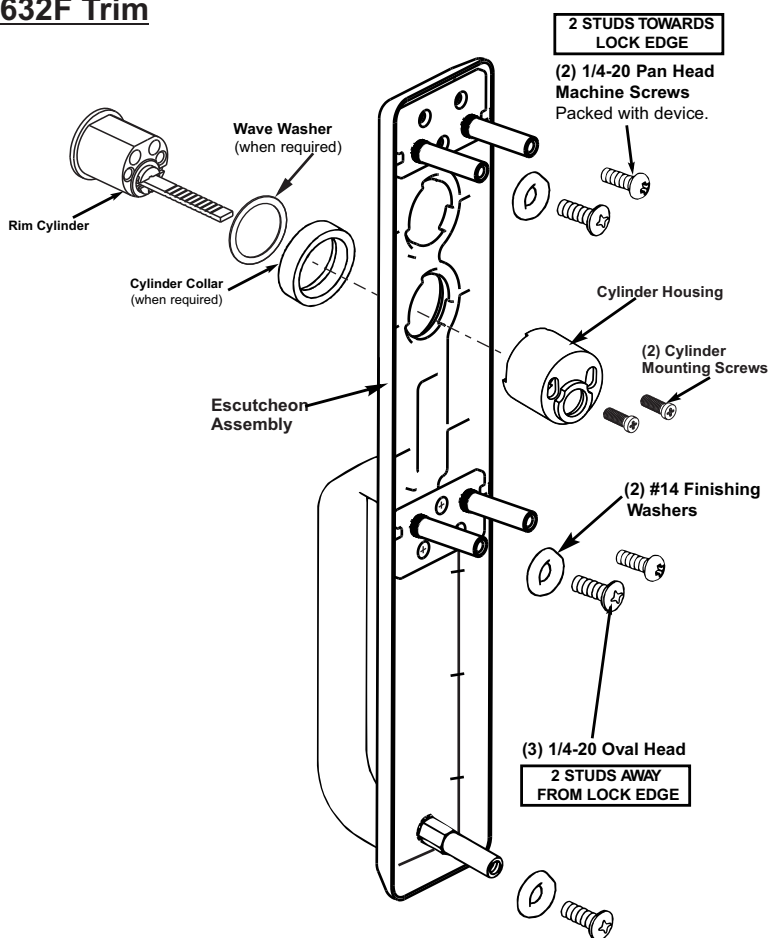

Figure 1
6. Mount trim to door thru holes "A" with (2) mounting screws as shown in Fig. 1. Use the remaining (3) oval headed screws and finish washers to secure the trim to the door surface thru location "B" as shown in Fig. 1, the third screw and washer attaches to the hole located at the bottom of the trim (632F Trim Only).
8. Seat device so that the trim tailpiece penetrates cam slot as shown in Fig. 1. Continue as shown in device instructions.